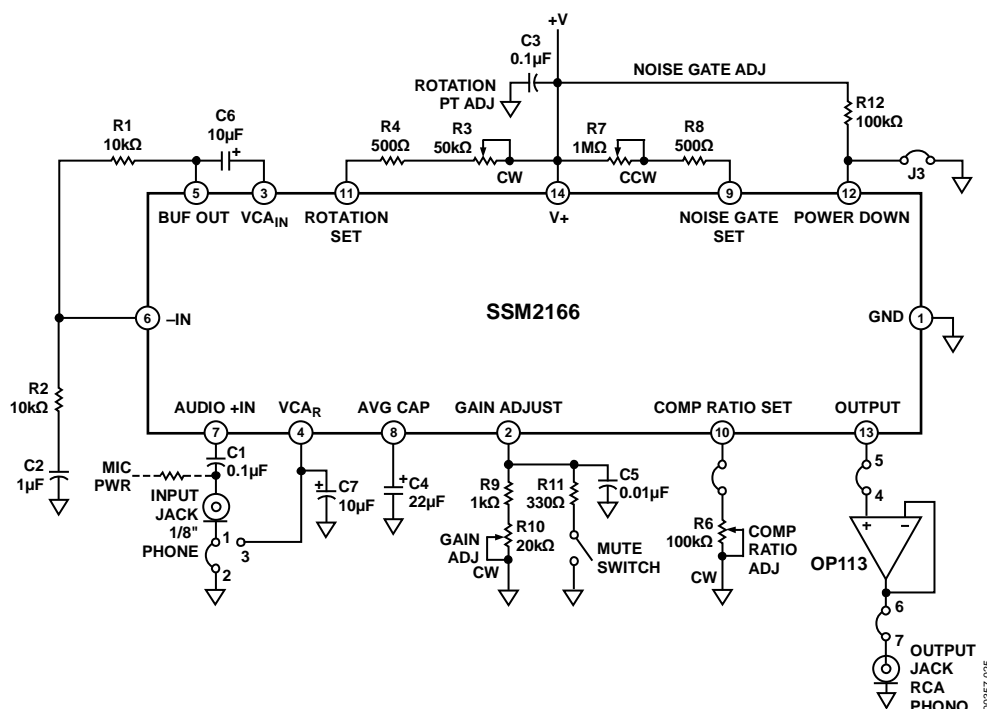
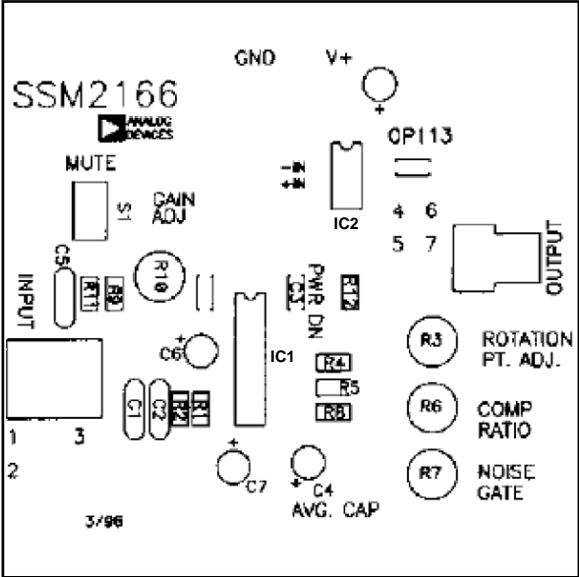
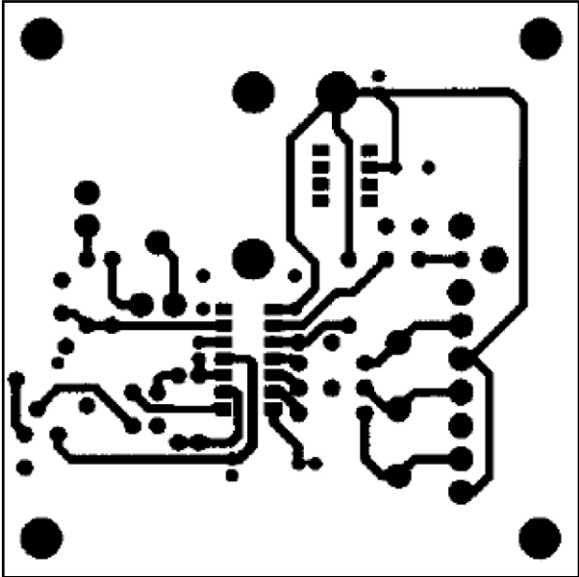
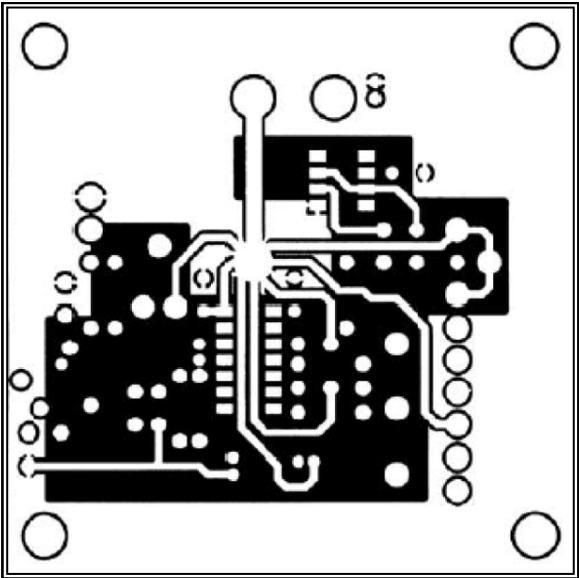

Figure 26. Evaluation Board Schematic
Figure 27. Evaluation Board Topside Silkscreen (Not to Scale)
Figure 29. Evaluation Board Backside Metallization (Not to Scale)
Figure 28. Evaluation Board Topside Metallization (Not to Scale)
The gain of the VCA at the rotation point is set by the value of a resistor,  $R_{GAIN}$ , connected between Pin 2 and GND. The relationship between the VCA gain and  $R_{GAIN}$  is shown in Figure 6. The AGC range can be as high as 60 dB. The  $VCA_{IN}$  pin (Pin 3) is the non-inverting input terminal to the VCA. The inverting input of the VCA is available at the  $VCA_R$  pin (Pin 4) and exhibits an input impedance of 1 k $\Omega$ , as well. As a result, this pin can be used for differential inputs or for the elimination of grounding problems by connecting a capacitor whose value equals that used in series with the  $VCA_{IN}$  pin to ground (see Figure 26 for more details).
Changing the scaling of the control signal fed to the VCA causes a change in the circuit compression ratio,  $r$ . This effect is shown in Figure 20. The compression ratio can be set by connecting a resistor between the COMP RATIO SET pin (Pin 10) and GND. Lowering  $R_{COMP}$  gives smaller compression ratios as shown in Figure 19, with values of approximately 17 k $\Omega$  or less resulting in a compression ratio of 1:1. AGC performance is achieved with compression ratios between 2:1 and 15:1 and is dependent on the application. A 100 k $\Omega$  potentiometer can be used to allow this parameter to be adjusted. On the evaluation board (see Figure 26), an optional resistor can be used to set the compression equal to 1:1 when the wiper of the potentiometer is at its full counterclockwise (CCW) position.
- A single-point (star) ground implementation is recommended in addition to maintaining short lead lengths and PCB runs. The evaluation board layout shown in Figure 27, Figure 28, and Figure 29 demonstrates the single-point grounding scheme. In applications where an analog ground and a digital ground are available, the SSM2166 and its surrounding circuitry should be connected to the analog ground of the system. Because of these recommendations, wire-wrap board connections and grounding implementations should be avoided.
A schematic diagram of the SSM2166 evaluation board is illustrated in Figure 26. As a design aid, the layouts for the topside silkscreen and the topside and backside metallization layers are shown in Figure 27, Figure 28, and Figure 29. Although not shown to scale, the finished dimension of the evaluation board is 3.5 inches by 3.5 inches and comes complete with pin sockets and a sample of the SSM2166.
Signal sources are connected to the SSM2166 through a 1/8-inch phone jack where a 0.1  $\mu\text{F}$  capacitor couples the input signal to the AUDIO +IN pin (Pin 7). As shown in Figure 26 and in microphone applications, the phone jack shield can be optionally connected to the ground plane of the board (Jumper J1 inserted into the board socket for Pin 1 and Pin 2) or to the VCAR input at Pin 4 (J1 inserted into the board socket for Pin 1 and Pin 3). If the signal source is a waveform or function generator, the phone jack shield should be connected to ground.
To illustrate how easy it is to program the SSM2166, a practical example is provided. The SSM2166 was used to interface an electret-type microphone to a postamplifier. The evaluation board or the circuit configuration shown in Figure 26 can be used. The signal from the microphone was measured under actual conditions to vary from 1 mV to 15 mV. The postamplifier requires no more than 500 mV at its input. The required gain from the SSM2166 is, therefore
When building a breadboard, keep the leads to Pin 3, Pin 4, and Pin 5 short. An evaluation board is available from an Analog Devices sales representative. The R and C designations refer to the demonstration board schematic of Figure 26 and the parts list in Table 7.